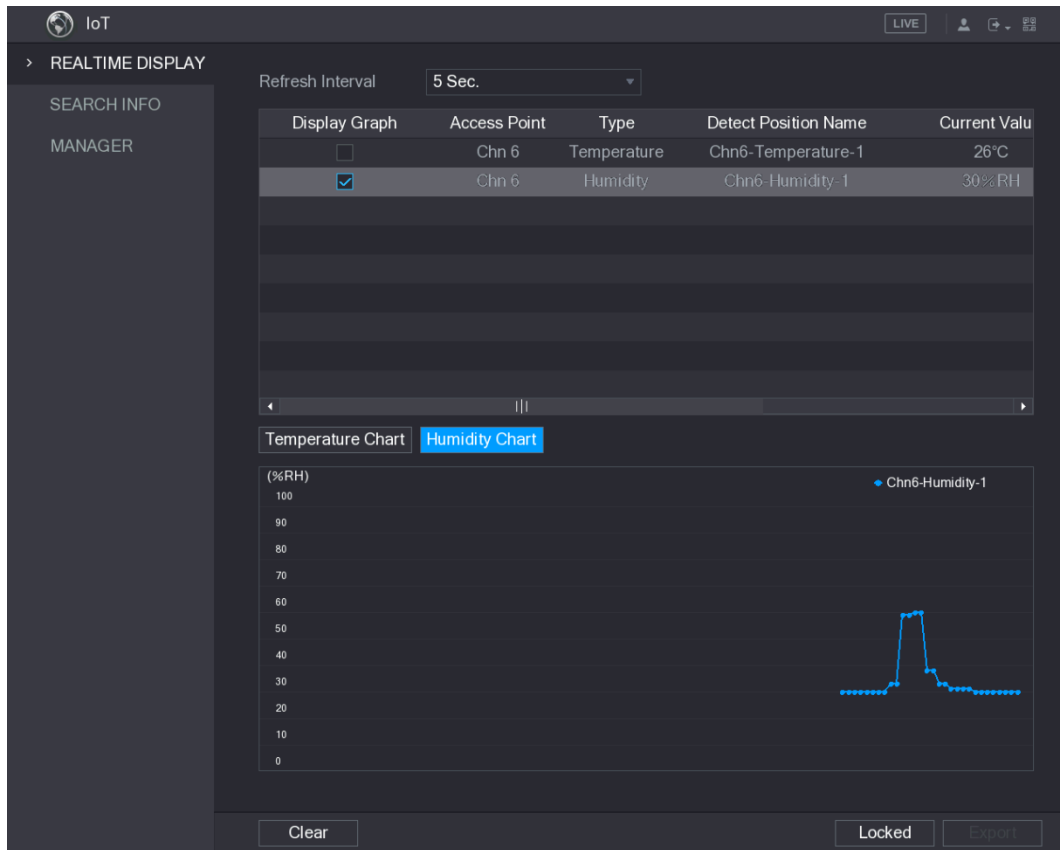

Figure 5-186
**Step 2** On the **Realtime Display** interface, click the **Humidity** tab. See Figure 5-186.